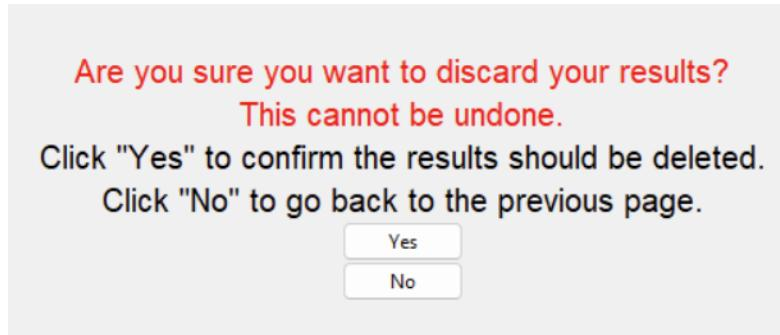

Figure 3.20 - Discard Results Warning Message (TS)
4a: If “Discard Results” is pressed, the screen in figure 3.20 will appear, confirming the results should be discarded. Select “YES” to discard the results and return to the main menu or “NO” to not discard the results and go back to the previous page in step 3 (TS).